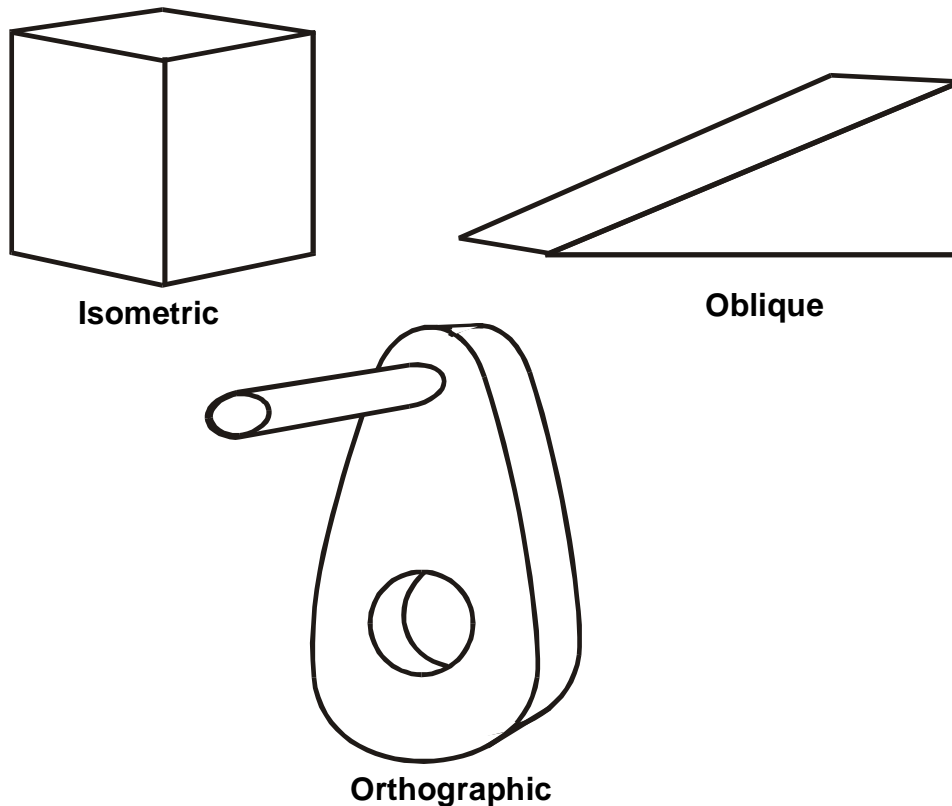

Figure 3-13. Three types of technical drawings.
1. A technical drawing is a broad term that applies to any drawing used to express ideas or concepts where accurate proportions and/or relationships are essential. An inaccurate drawing is worthless. The three types of drawings you need to be familiar with are orthographic, isometric, and oblique (see Figure 3-13). As an illustrator, you may be called upon to produce an accurate orthographic drawing of a captured piece of equipment, or just the opposite, create an isometric drawing from a blue print.